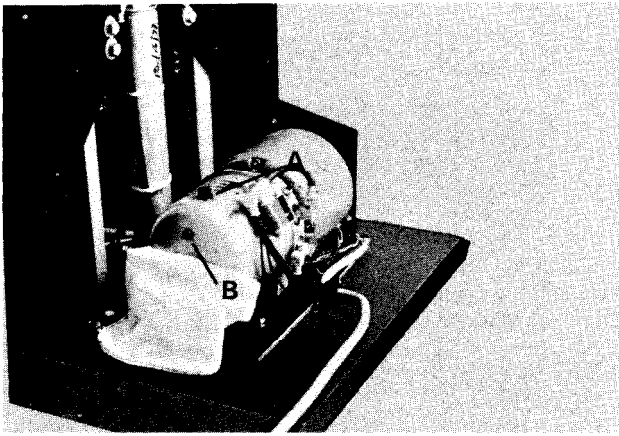

Fig. 23
- 2) Remove plastic filler cap, Item A, Fig. 23 on top of tank.
- 3) Remove small screw, Item B, Fig. 23 from end of tank and place a rag under this screw hole.
- 5) Replace small screw, Item B, Fig. 23 in end of tank.
- 6) Replace plastic filler cap, Item A, Fig. 23.